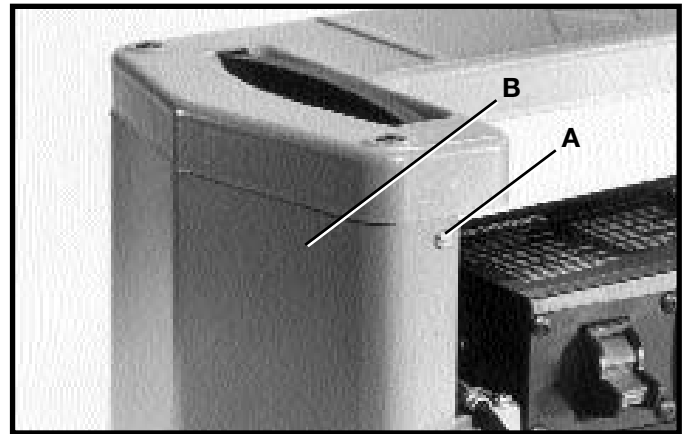

Fig. 28
2. Remove screw (A) Fig. 28, and nut located on the other end of screw. Remove the side cover (B) from the left side of the planer.